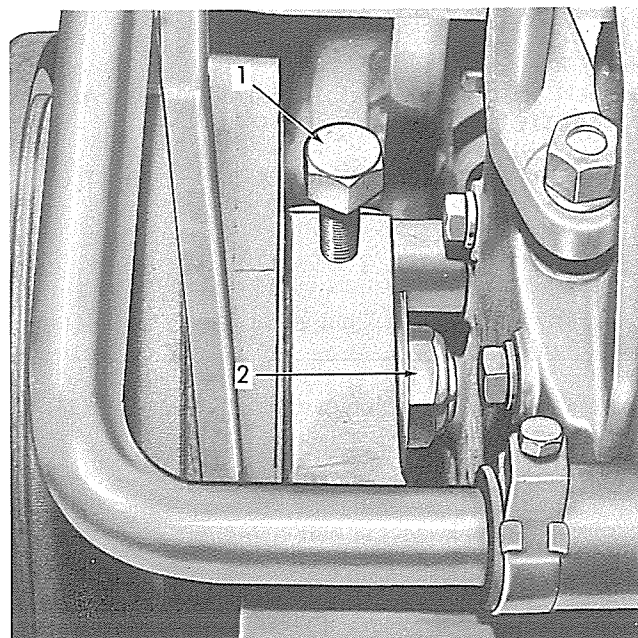

Fig. 6—Fan Belt Adjustment Location
3. TRACTOR LOADERS AND TRACTOR DOZERS (Fig. 6)